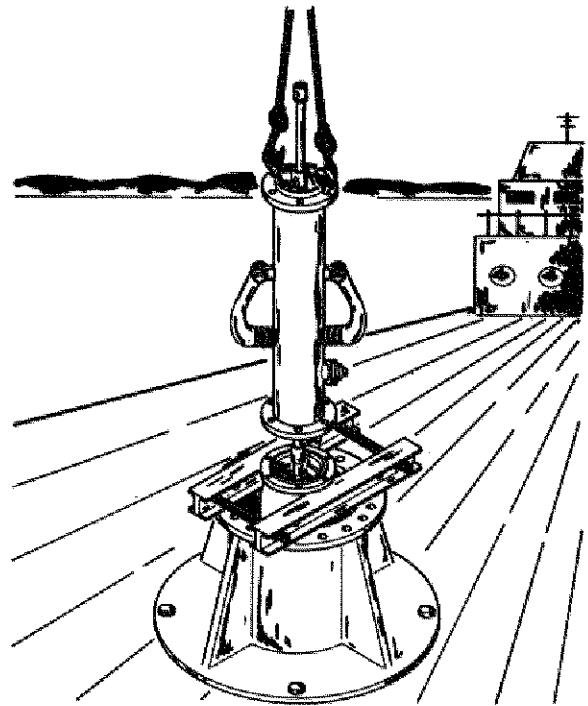

FIGURE 6-1. BOTTOM COLUMN
C. Install two eyebolts diametrically opposite in the upper flange of column (644) with auto-prime valve and sway braces. Attach a sling to the eyebolts and to hoist hook. Hoist column section over bowl assembly. (See Figure 6-1.) Lower column over lineshaft until column flange engages the top bowl flange register. Insert as many capscrews through both flanges as possible. Tighten capscrews gradually in diametrically opposite pairs.
F. Place bearing retainer (652) with bearing (653) over lineshaft (646) and locate it in the bottom column (644) flange register.